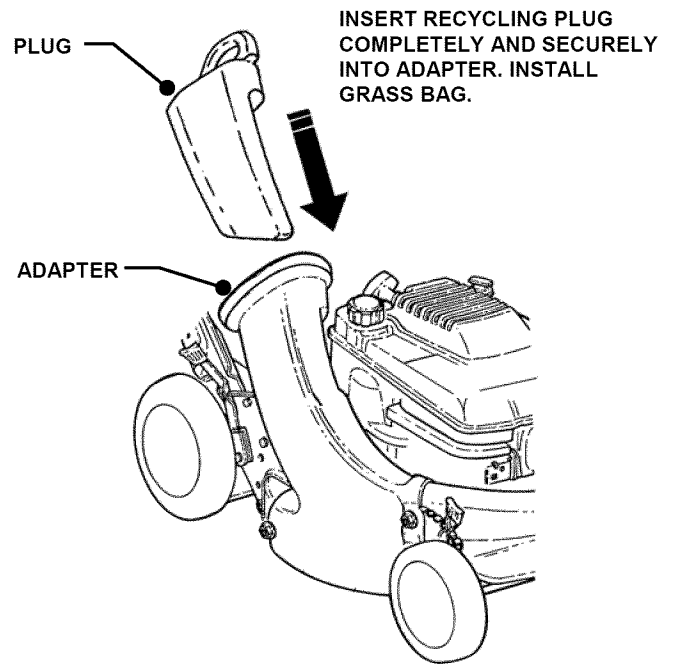

FIGURE 2.12
**STEP 1:** Once adapter has been installed, recycling may be desired. Insert recycling plug completely and securely into adapter. Install grass bag. See Figure 2.12.